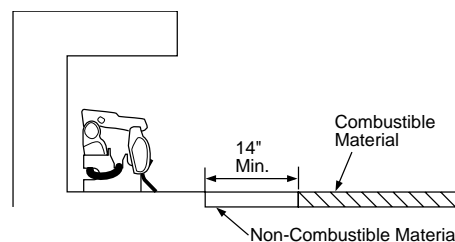

Figure 8 - Minimum Fireplace Clearances If Installed at Floor Level
- If installing appliance on the floor level, you must maintain the minimum distance of 14" to combustibles (see Figure 8, page 9).